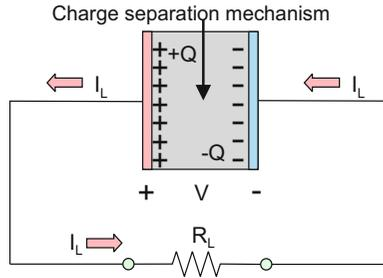

Fig. 2.26. Power source schematically represented as a capacitor continuously charged by a charge separation mechanism—the *charge pump*.
Operation of a voltage power supply of any kind (an electric generator, a chemical battery, a photovoltaic cell, etc.) might be illustrated based on the *charge separation principle* very schematically depicted in Fig. 2.26. We need to deliver electric power to a load modeled by an equivalent resistance  $R_L$ . First, we consider in Fig. 2.26 a charged capacitor with a charge  $Q$  connected to a load resistor  $R_L$  at an initial time moment. The capacitor voltage  $V$  is related to charge by  $V = Q/C$  where  $C$  is the (constant) capacitance. The capacitor starts to discharge and generates a certain load current  $I_L$ . At small observation times, the change in  $Q$  is small, so is the change in  $V$ . Therefore, the capacitor initially operates as a voltage power supply with voltage  $V$ . However, when time progresses, the capacitor discharges and the voltage  $V$  eventually decreases.
2. For a battery, these are chemical reactions at the electrodes which cause a charge separation, i.e., positive metal ions dissolve in the electrolyte and leave excess electrons in the metal electrode on the left in Fig. 2.26.
3. For the photovoltaic cell, this is a built-in potential of the semiconductor pn-junction that separates light-generated negative carriers (electrons) and positive carriers (holes) as shown in Fig. 2.26.
Indeed, the capacitor analogy in Fig. 2.26 is only an illustrative approach, especially for electromechanical power generation. Below, we will consider a few specific examples.